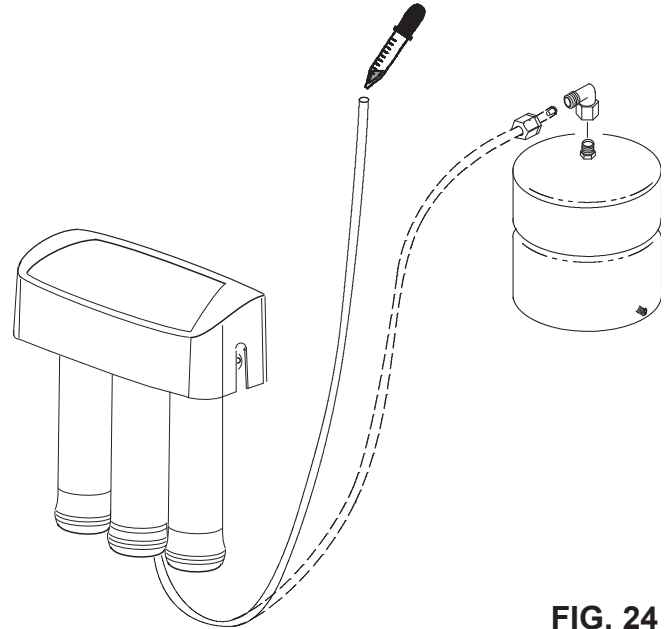

FIG. 24
Complete the following steps to sanitize the system. See Fig. 24.
4. Add 3 ml. of bleach into open end of yellow tubing. Handle bleach according to bleach manufacturer's recommendations. See Fig. 24.